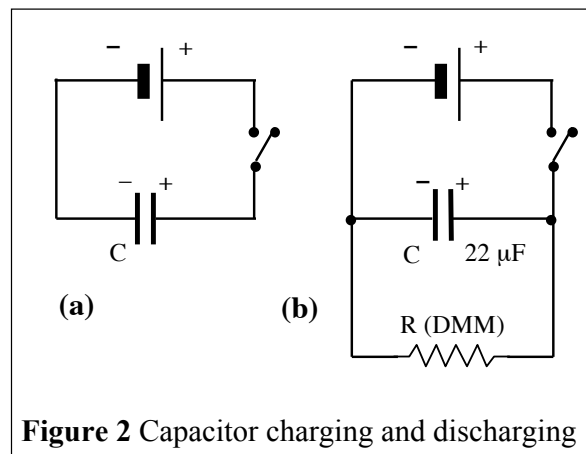

Figure 2 Capacitor charging and discharging
A capacitor is a device that stores electric charge. Suppose a capacitor is charged, as in figure 2(a), by momentarily closing a switch connected to a battery. When the switch is opened again there is nowhere for the charge to go so it stays on the two plates of the capacitor, maintaining a voltage difference V between them. The capacitance C is the charge stored divided by the voltage: $C = Q/V$. But if a resistance R is placed across the capacitor, as shown in figure 2(b), the charge can leak through R from one plate to the other, discharging the capacitor. The larger R the slower the leak, and the larger C the more charge there is to transfer. So it is not surprising that both the charge on the capacitor and the voltage across it decrease with time t according to the exponential law:
- On the breadboard make the simple circuit of figure 2(b), using a $22 \mu\text{F}$ capacitor and using the DMM as the resistor, set to measure voltage. Use a desk-top power supply connected to the breadboard with wires. The value of R is then the input resistance of the meter. The capacitor *must* be connected the right way round — the polarity is marked on it by a vertical line indicating +.